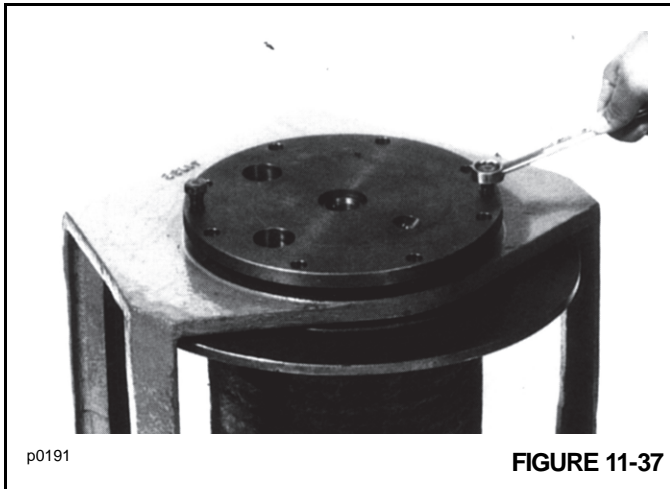

FIGURE 11-37
8. Turn the hoist over onto the motor end and remove the capscrews holding the output shaft (3, Figure 11-33) into the mounting bracket. Reference mark for proper assembly. Install two of the capscrews into the extra threaded holes in the output shaft (Figure 11-37) and evenly tighten them until the output shaft is free from the mounting bracket.